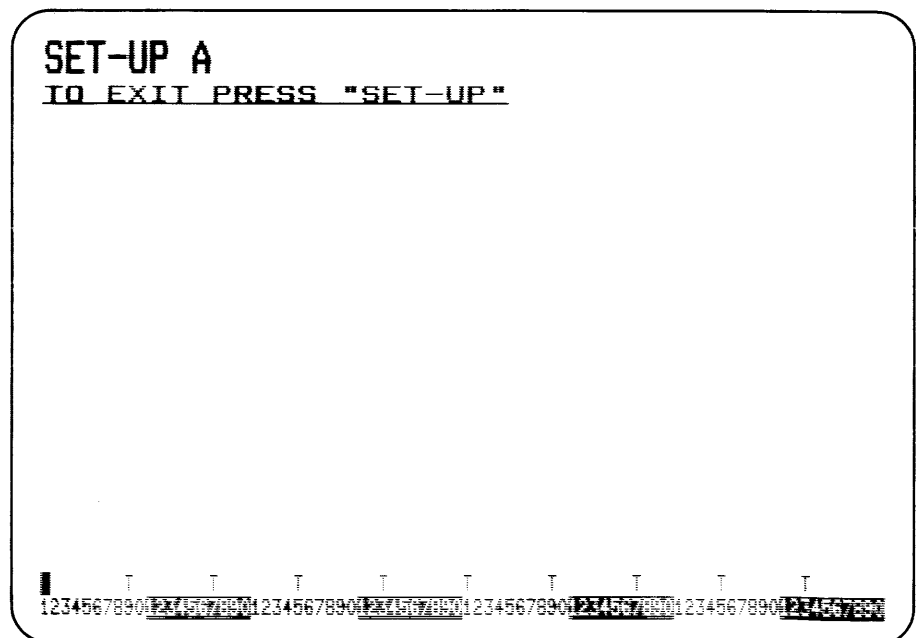

Figure 1-4
**SET-UP A** – To enter SET-UP A, press the **SET-UP** key. The display will now have a presentation similar to Figure 1-4. The bottom line of the display consists of a “ruler” which numbers each character position available on a line. The location of each tab stop is shown by a “T” placed above the ruler. If the tab stop(s) set are those desired, you may exit SET-UP mode by pressing the **SET-UP** key again or you may now change the tabs to meet your requirements.